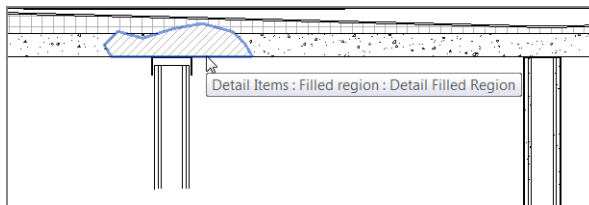

FIGURE 12.71: Excluding an element from the group
1. Hover your cursor over the bottom line of the filled region, as shown in Figure 12.71.
3. Pick the region (see Figure 12.71).